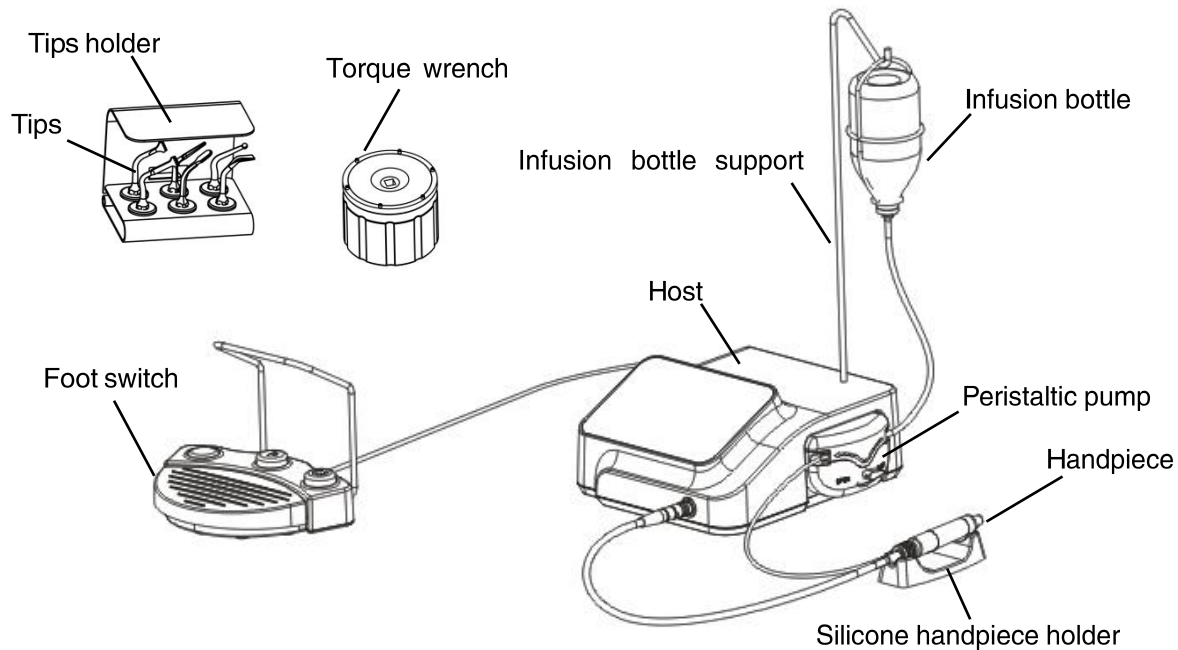

Figure 8
2.11 The effect of the whole device after all the accessories are installed(Figure 8)